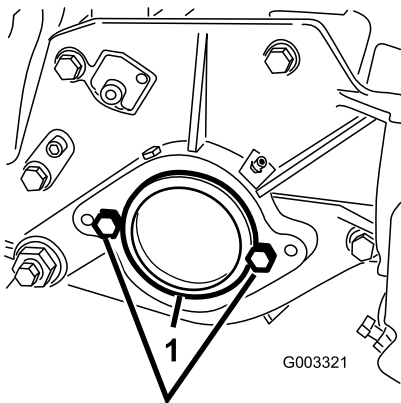

Figure 7
2. On right end of cutting unit, remove the plastic plug from the bearing housing (Figure 7).
3. Remove the 2 cap screws from the right side plate (Figure 7).
5. Loosely install the 2 reel motor mounting cap screws to the left side plate of the cutting unit (Figure 7).